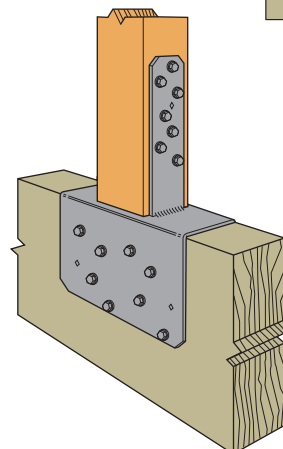

Figure 5 — Typical (Inverted) CCQ44SDS2.5 Post-to-Beam Installation
- Post caps may be installed inverted for post-to-beam applications. The Designer is responsible for evaluating the beam to ensure it is capable of receiving all loads applied by the post. (Figure 5)